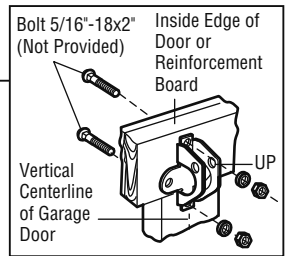

Figure 4
- Use top and bottom or side to side door bracket holes. Drill 5/16" holes through the door and secure bracket with 5/16"x2" carriage bolts, lock washers and nuts (not provided) (Figure 4).